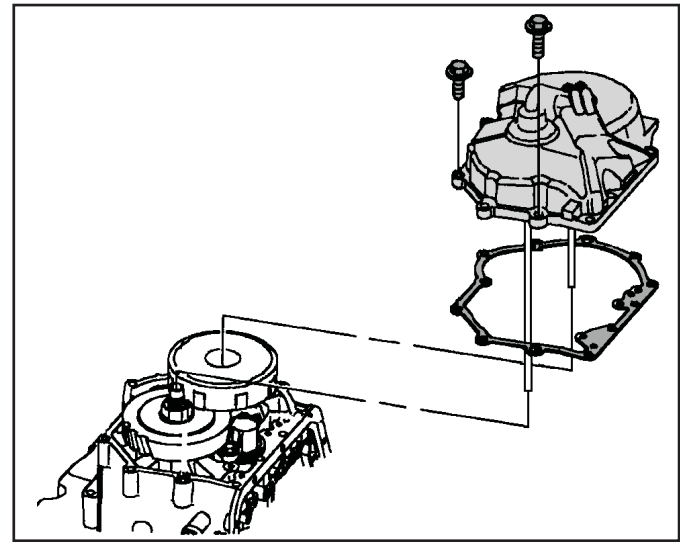

Figure 208
- 41. Install a new end cover gasket (See Figure 208).
- 42. Install the end cover by inserting the tubes into the end of the shaft. If cover does not seat, turn the shafts to help align the tubes with the bushings in the shafts (See Figure 208).